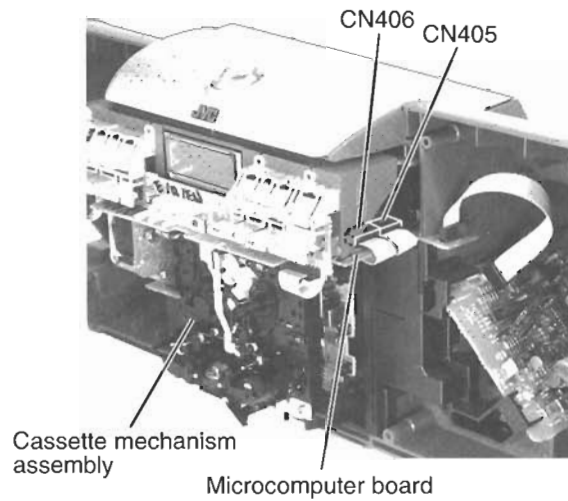

Fig.4
■ Removing the Cassette Mechanism Assembly (See Fig.4 and 5)